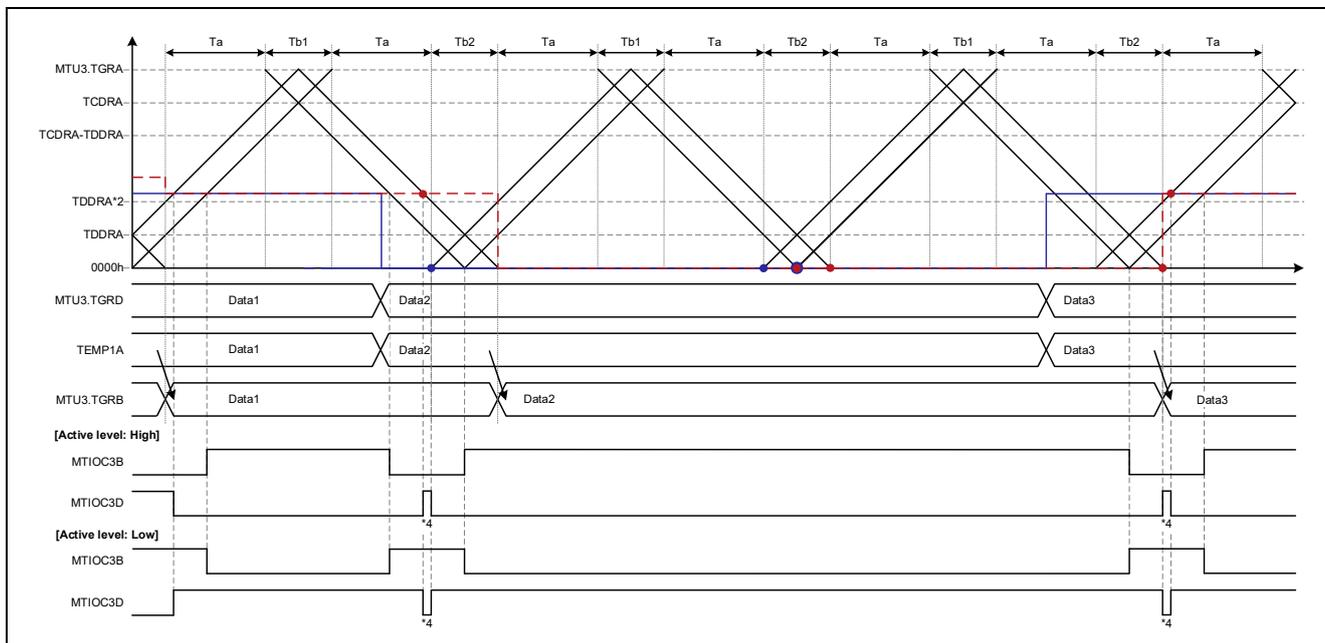

Figure 1.31 Complementary PWM Mode 2 Operation Example (Output Start: Trough, Overwrite in Ta Interval, Duty: D → 100% → D)
- [Operation example 2] Figure 1.31, Complementary PWM Mode 2, Output Start: Trough, Ta Interval Overwrite, caution 4
Figure 1.31 shows an operation example of buffer overwrite in the Ta interval in complementary PWM mode 2. Except for the difference in the buffer overwrite timing, the operation is the same as that shown in Figure 1.30.